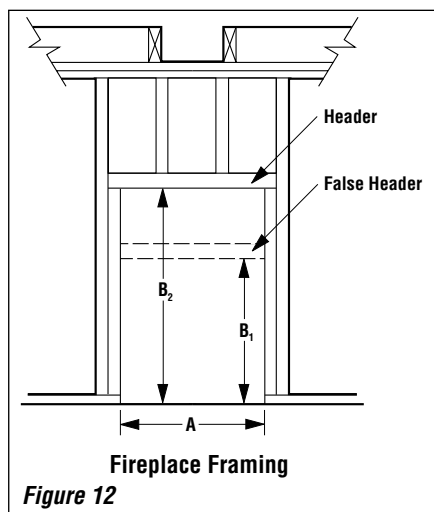

Figure 12
Step 3. Refer to fireplace drawings and specifications on **pages 10 and 11** for framing dimensions and details. Frame appliance enclosure as illustrated in **Figures 12 through 15** on **page 11**.